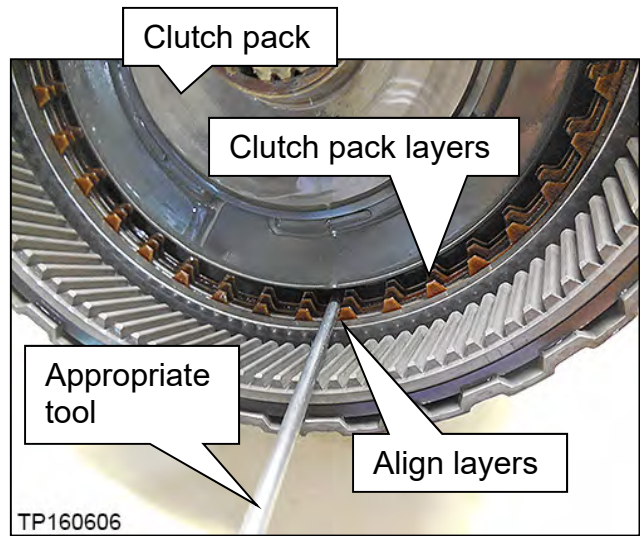

Figure 210
- Bottom of the clutch pack shown in Figure 210.